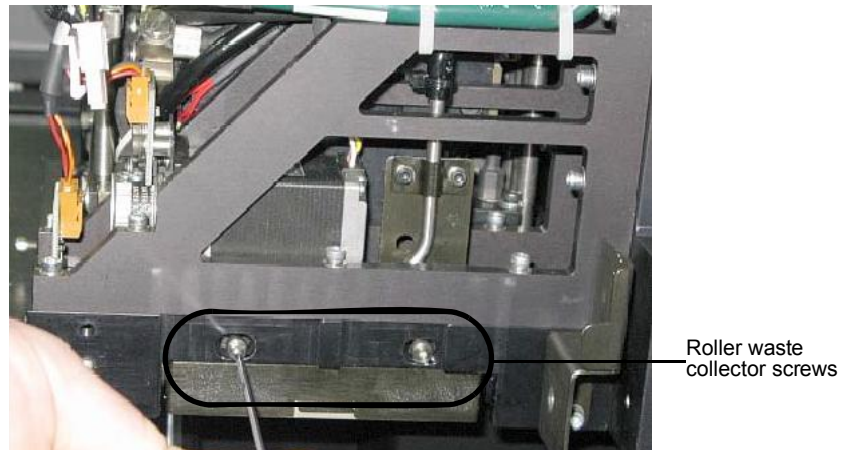

Figure 6-30: Removing the roller waste collector covering
- Return the roller waste collector to the print block and screw on the covering (see figure 6-30 on page 6-28).